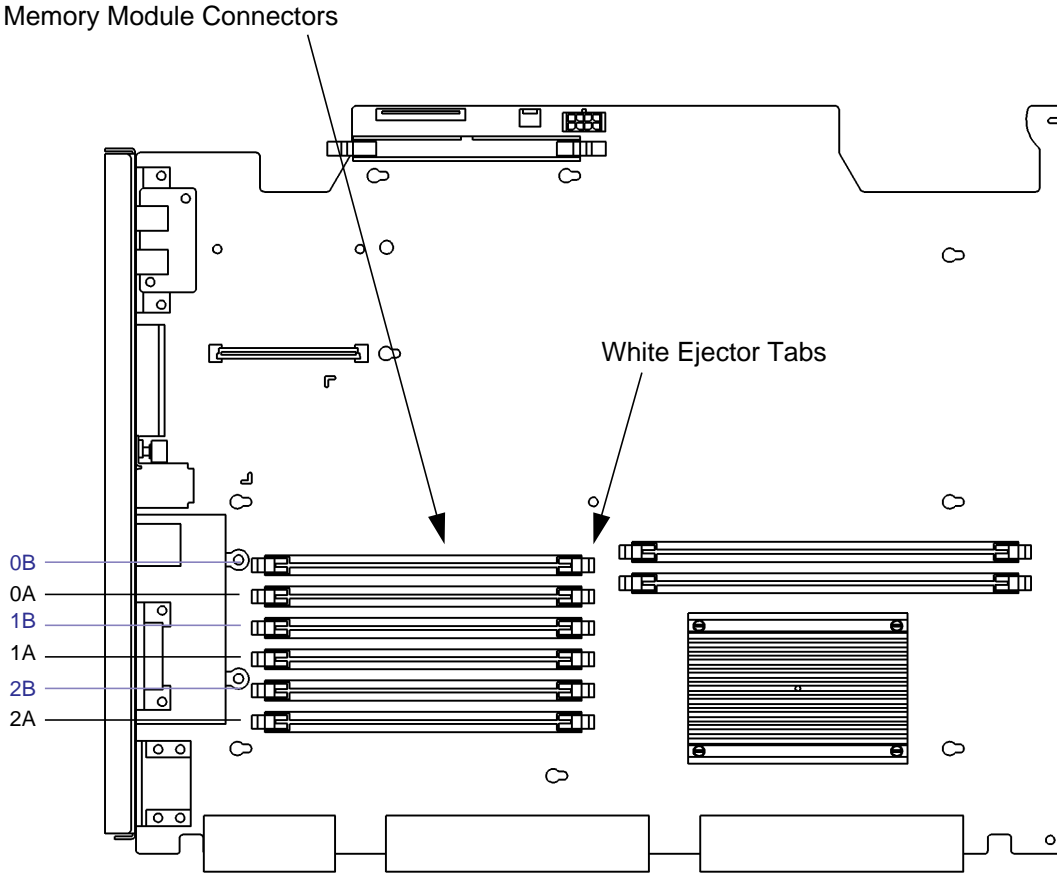

Figure 45 Memory Module Location
- 1 Locate the memory connectors on the CPU board, as shown in Figure 45.